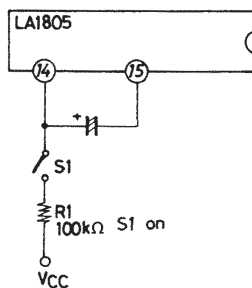

Figure 1 Forced Monaural Mode Setting Method
Figures 1 and 2 show how to cause the forced monaural mode to be entered.
(1) Connect pin 14 to VCC through a resistor of 100kΩ. (Turn ON the SW1 in Figure 1.)